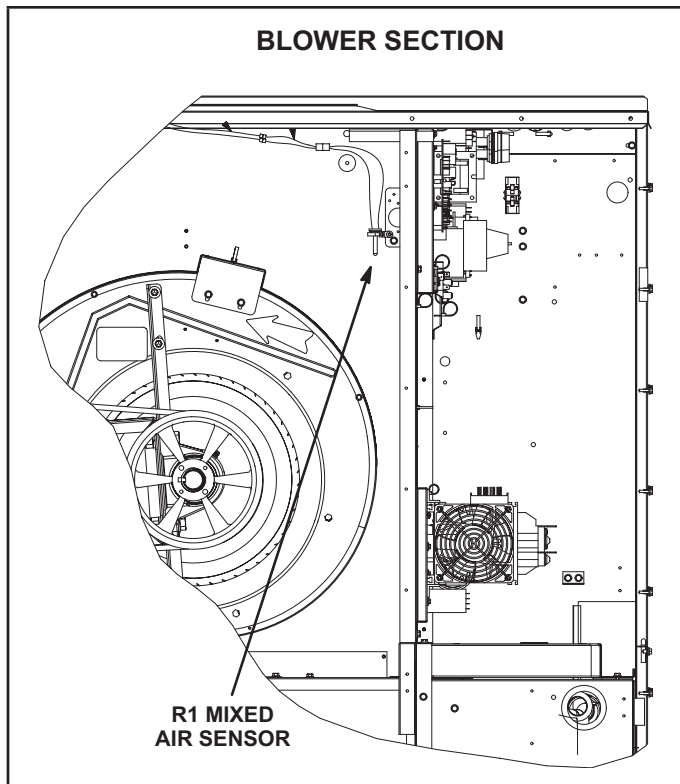

FIGURE 22
- 2 - Install sensor on bracket as shown in figure 22 and 23.